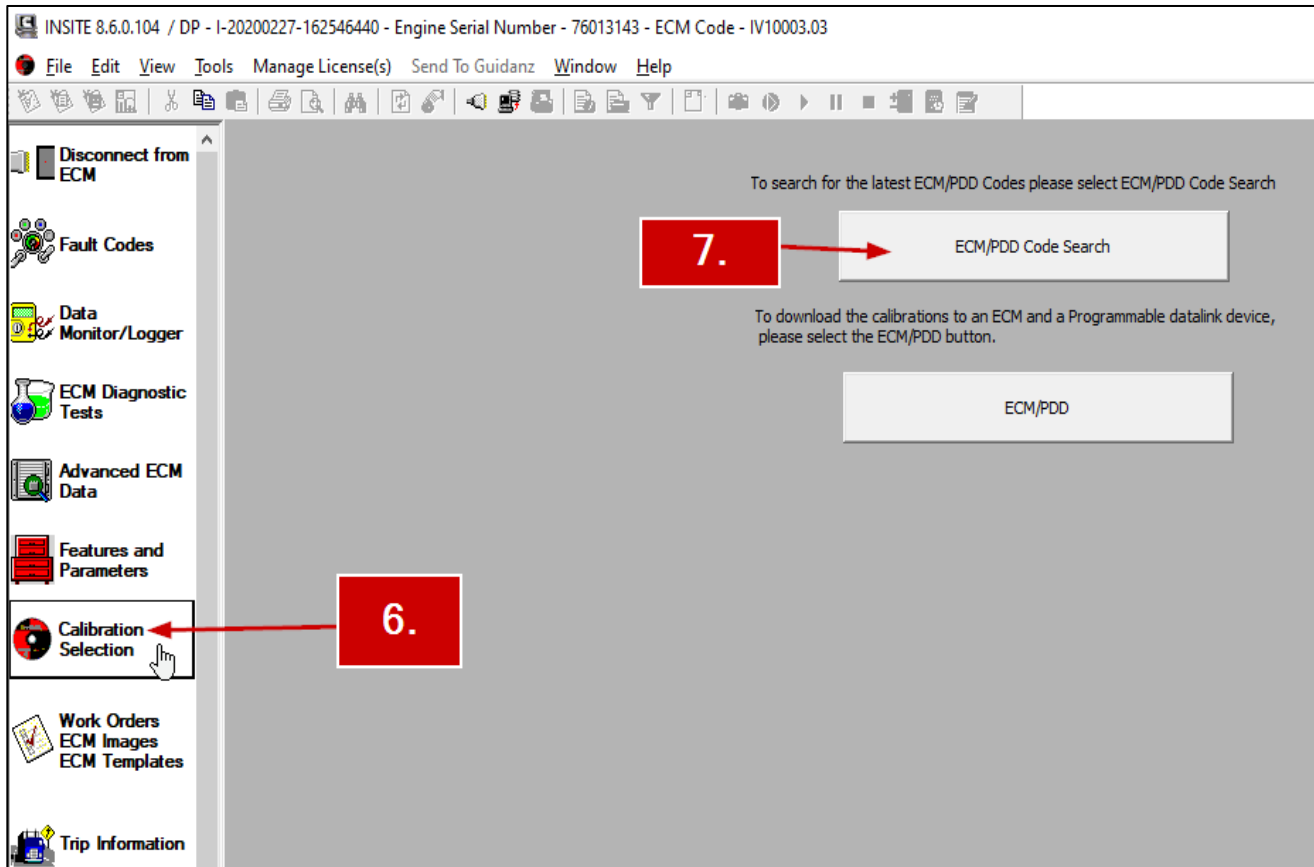
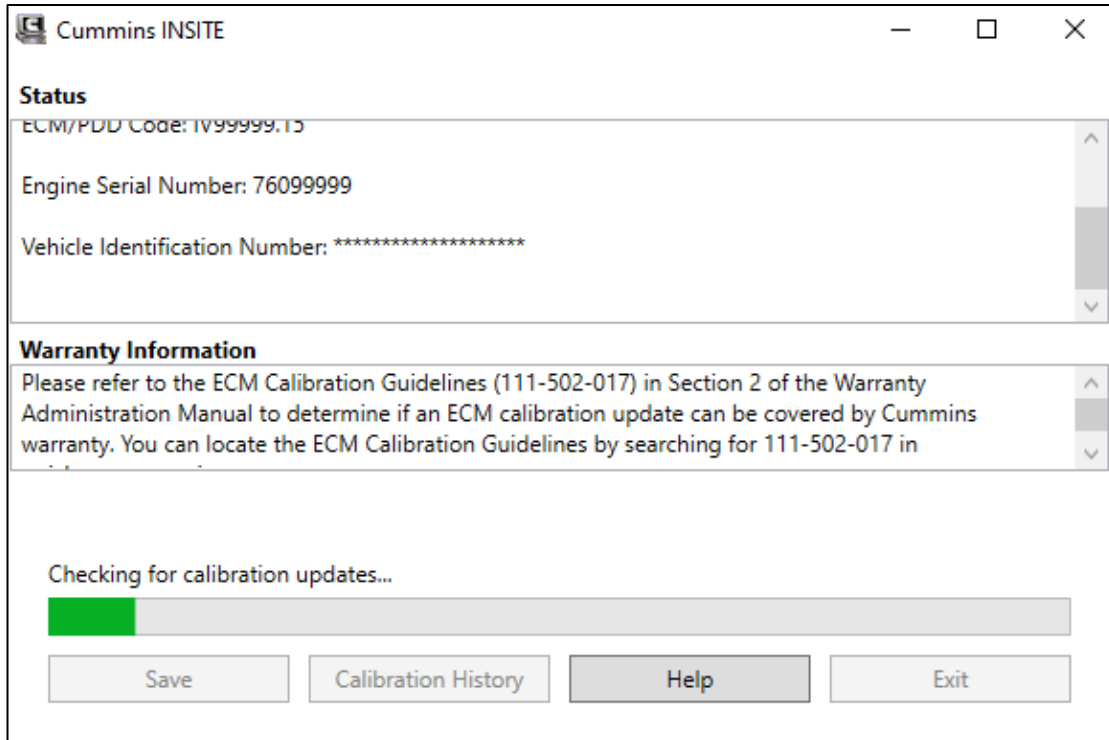

Figure 9.
Figure 10.
Step 6: Click “Calibration Selection” from the left tab menu. *Figure 9*
Step 6 -“Calibration Selection” tab (6) and Step 7 “ECM/PDD Code Search” button (7).
Step 7: Click “ECM/PDD Code Search” button (*Figure 9*) and the “Checking for calibration updates” screen will appear. *Figure 10*